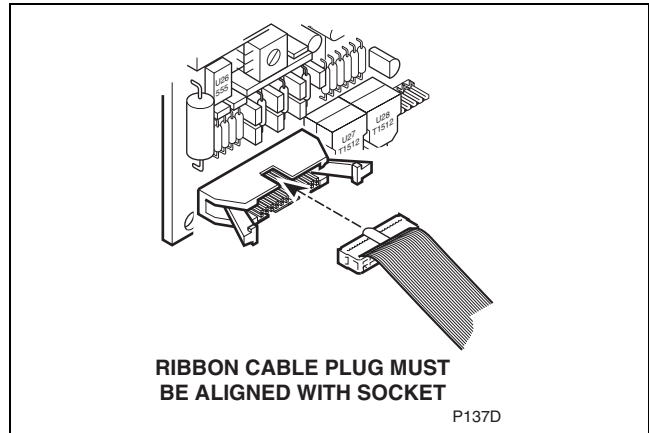

Figure 7
- Board installation is the reverse of removal. Carefully align the plugs with the receptacles and push them gently into place. Refer to *Figure 7*.
i. Board installation is the reverse of removal. Carefully align the plugs with the receptacles and push them gently into place. Refer to Figure 7.